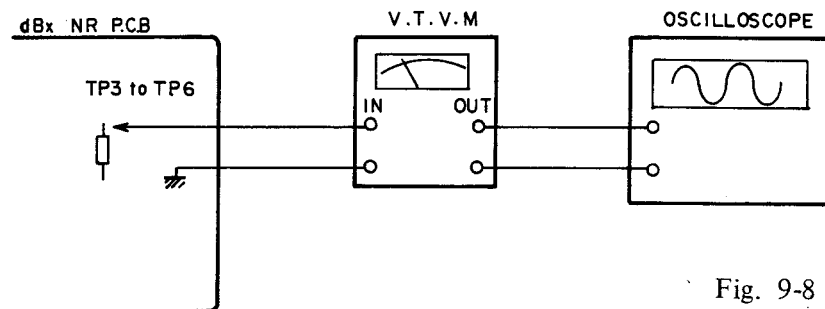

Fig. 9-8
4. In R.M.S symmetry adjustment (step 2), Observe the signals at the testpoints (TP 3 to TP 6) by referring to Fig. 9-8. Due to the signals at those testpoints are very low level.